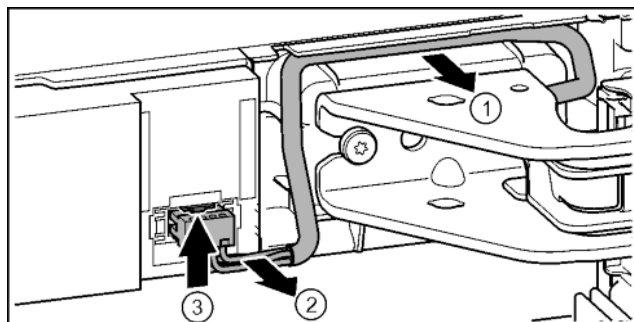

Fig. 19
- Carefully remove the cable over the bearing bracket from the guide. *Fig. 19 (1)*
- Carefully remove the cable strands from the channel. *Fig. 19 (2)*
- Press the lug upwards and carefully remove the connector. *Fig. 19 (3)*